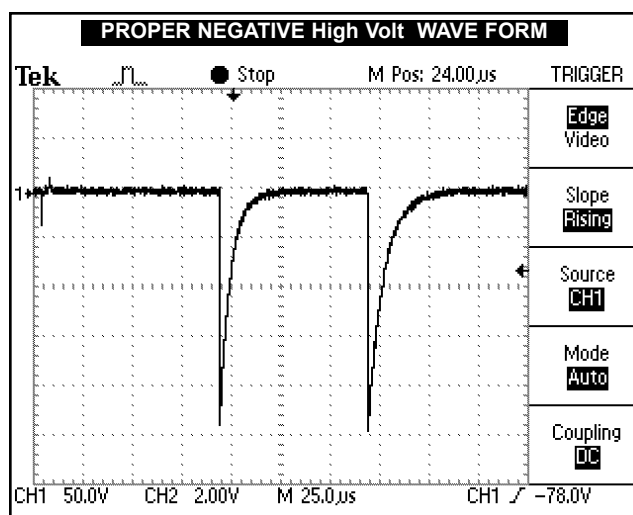

FIGURE 5.18
10. Compare wave form on scope to Figure 5.18.